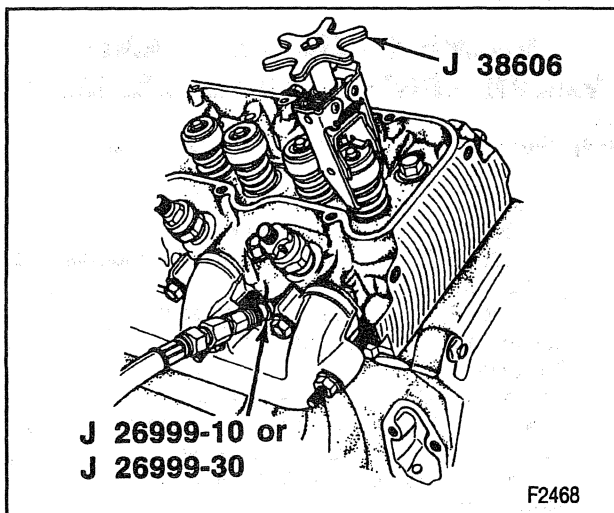

Figure 17—Compressing the Valve Spring
- D. Use tool J 38606 to compress the valve spring (figure 17). If the spring will not compress, tap on the tool lightly with a mallet to break the cap or rotator loose from the valve keepers.